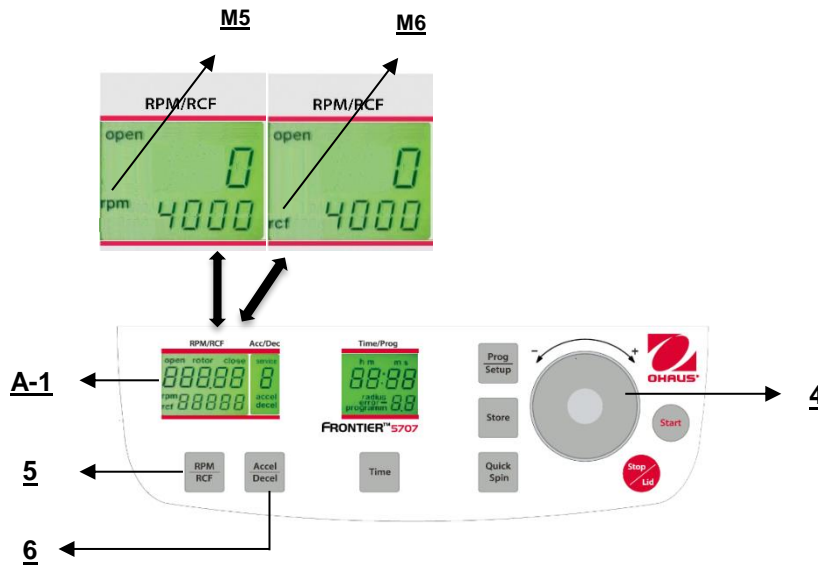

Figure. 16
This pre-selection is activated through the key "RPM/RCF" (5) (refer to figure 16 below). By pressing the key once the word "rpm" (M5) flashes. By pressing the key twice the pre-selection of the centrifugal forces can be selected. Then the flashing word "rcf" (M6) appears. You can set the desired values with the adjusting dial (4). In the display (A-1) the regulated value is shown permanently, before, during and after the run.